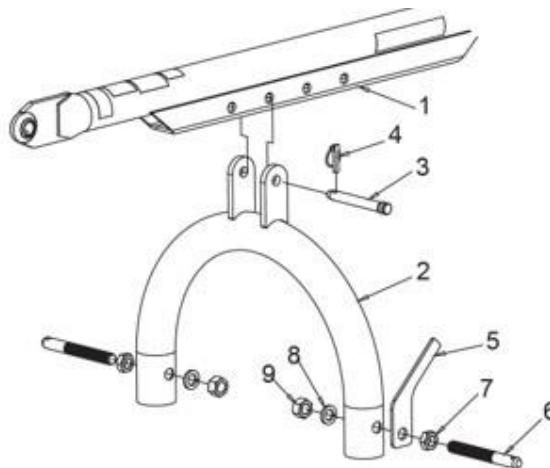

Figure 1. A-Frame to Boom Assembly
1. Connect lift arm pins (6), Figure 1, and hardware supplied with pins to the A-frame assembly (2).
5. Attach boom (1) to the tractor top link bracket.
6. Align A-frame assembly with the adjustment channel on the boom, starting with the second hole. Secure into position using boom adjustment pin (3) and lynch pin (5).